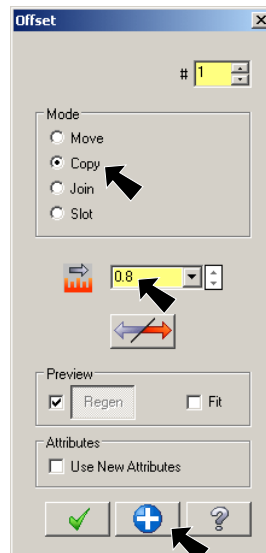

Fig. 17
Step 2. In Offset dialog box: under Mode, **Fig. 17**